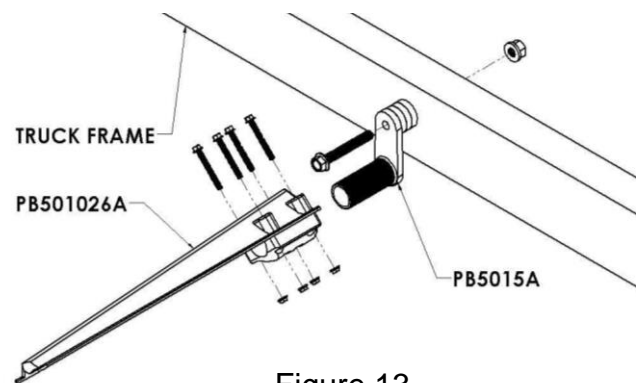

Figure 13
- A. Once the brackets are placed in position with the fender, securely tighten the 5/8" x 4-1/2" bolts that go through the PB5015 steel swivel to attach the swivel securely to the frame (Figure 13). **Recommended torque is 160-170 ft-lbs.**